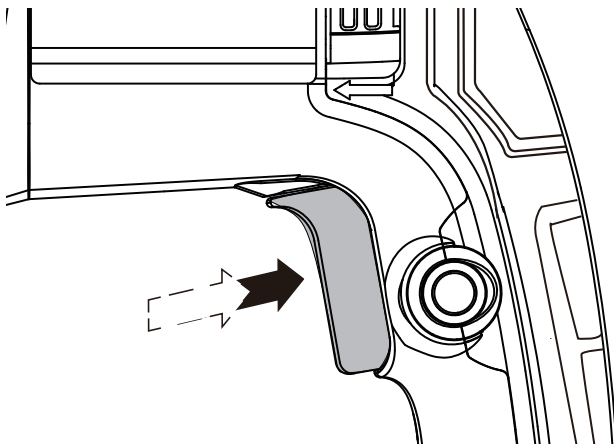

Figure 4
1. ON/OFF SWITCH WITH VARIABLE SPEED CONTROL (SEE FIG. 4)